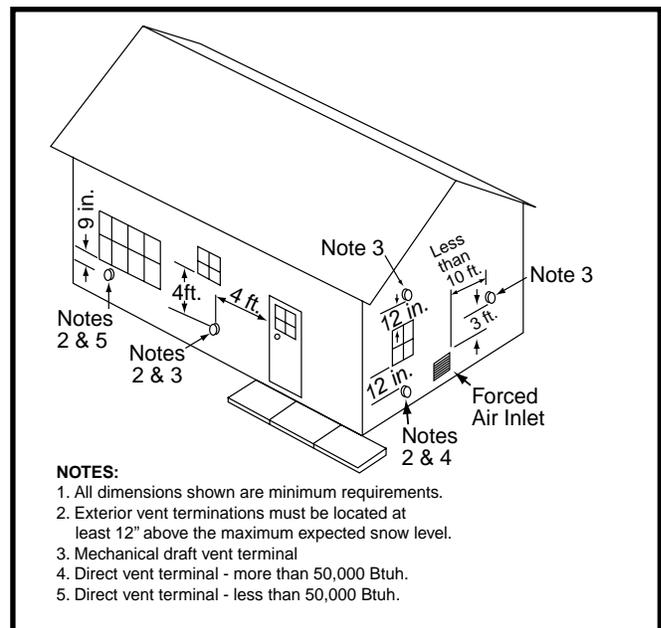

Figure 8. Vent Locations
- All minimum clearances must be maintained to protect building materials from degradation by flue gases as shown in Figure 8.